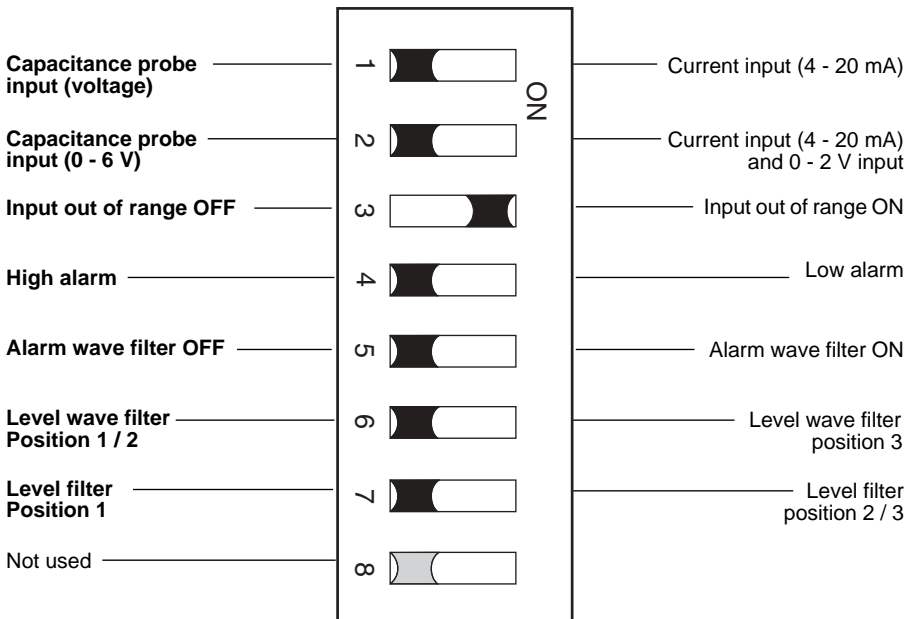

Fig. 3 Ex-works settings in bold
- Set the switches to the positions shown in Figure 3 for the chosen functions.